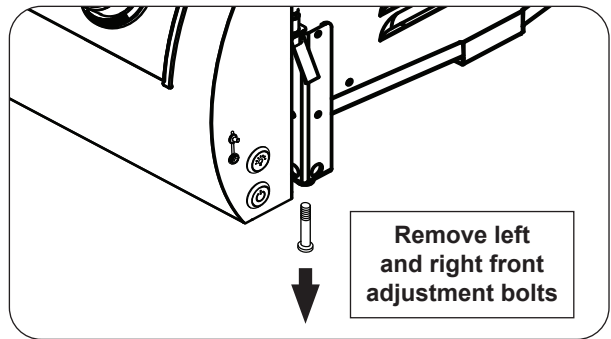

Fig. 10-1 Remove adjustment bolts
- Remove the left and right support adjustment bolts located on the bottom front of the appliance (if applicable). See Fig. 10-1.